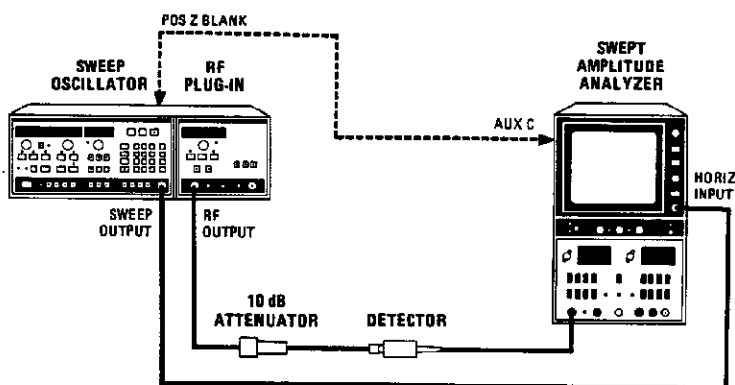
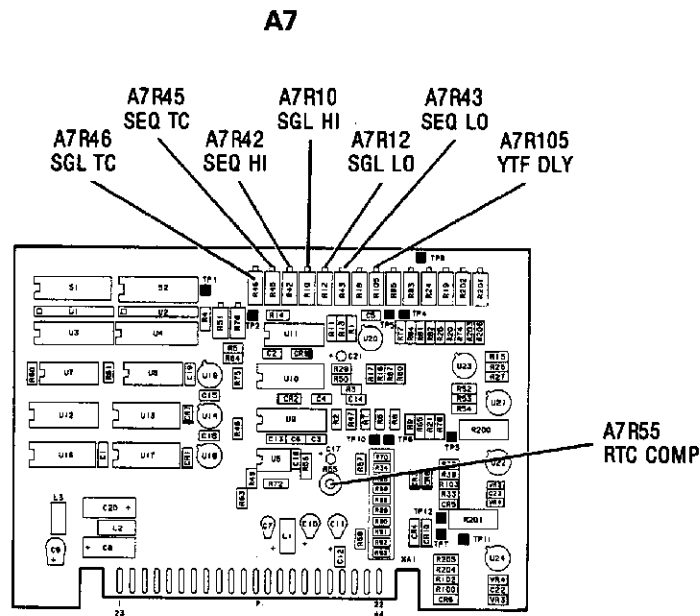

Figure 5-29. YTM Delay Compensation Adjustment Test Setup
Figure 5-30. YTM/YTF Delay Compensation Adjustment Locations
1. Connect the equipment as shown in Figure 5-29. Do not connect the BNC cable between the Model 8350A/B rear-panel POS Z BLANK and the 182T AUX C connector yet. Preset A7R45 (SEQ TC) fully counterclockwise. Refer to Figure 5-30 for adjustment locations. Allow the equipment to warm up for one hour.